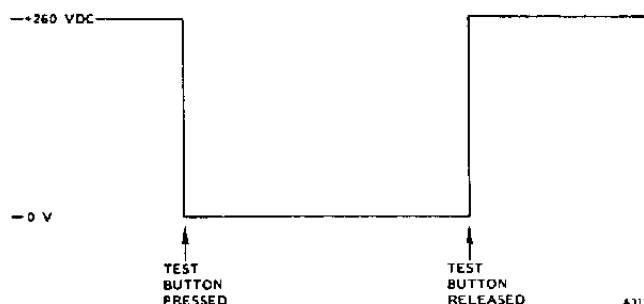

Figure 35—Detector D-Lead Voltage - Manual Test
3. Due to the meter loading factor, the voltage from the D-lead to ground measures approximately +260 vdc. When the **oi** TEST button is depressed (in the Bypass mode), the voltage on the D-lead of the detector under test drops to 0.5 vdc or less (see Figure 35).